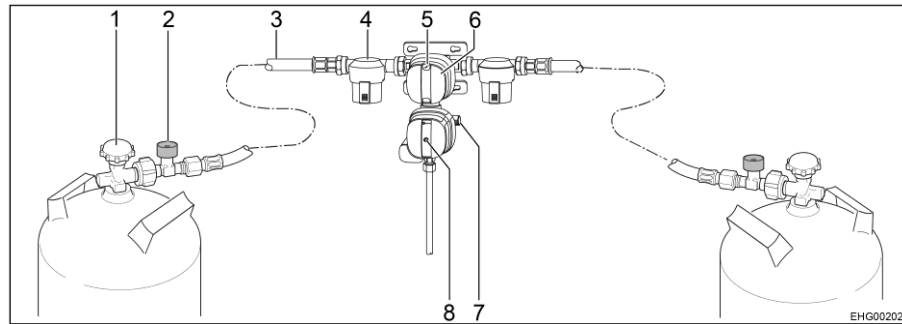
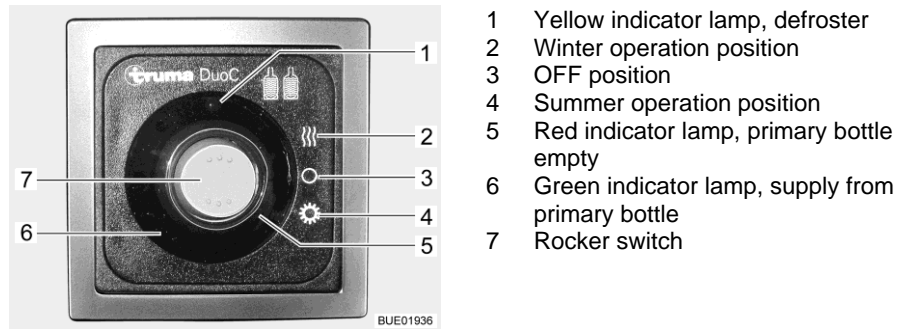

Fig. 133 Safety gas pressure regulating system DuoControl CS
Fig. 134 Operating unit (DuoControl)
The DuoControl regulating system consists of a reversing valve and a crash sensor. The DuoControl regulating system is installed between the high-pressure hoses (Fig. 133,3) with hose break guard (Fig. 133,2). The knob (Fig. 133,6) on the reversing valve is used to select which of the gas bottles is to be used as primary bottle and which is to be used as reserve bottle.
The status of the gas supply is indicated in the inspection window (Fig. 133,5):
The crash sensor blocks the gas supply in the event of a significant impact (e.g. accident). The situation of the yellow reset button (Fig. 133,8) indicates the operating status of the crash sensor:
- If the yellow reset button (Fig. 133,8) is in the pressed-in position, the crash sensor is ready to operate.
- If the yellow reset button (Fig. 133,8) is protruding, the crash sensor is **not** ready to operate. Putting into operation, see below.
The hose break guard (Fig. 133,2) blocks the gas flow if the connected hose breaks. The hose break guard must be activated by pressing the green button.
The operating unit shows the status of the primary bottle. When the green indicator lamp (Fig. 134,6) illuminates, the primary bottle is full. When the red indicator lamp (Fig. 134,5) illuminates, the primary bottle is empty. In this case, the reserve bottle is used for the gas supply.
If the heater of the DuoControl regulating system (defroster) is active, the yellow defroster indicator lamp (Fig. 134,1) is lit.
In addition, the operating unit (Fig. 134) is also used to set summer operation or winter operation.
- Press lower part of the rocker switch (Fig. 134,7) (summer operation position (Fig. 134,4)).
- Press upper part of the rocker switch (Fig. 134,7) (winter operation position (Fig. 134,2)).
- Use the knob (Fig. 133,6) on the reversing valve to select the gas bottle which is to be the primary source of gas (primary bottle). Always turn the knob as far as it will go.
- Open regulator taps (Fig. 133,1) on the gas bottles.
- Press and hold the green button of the hose break guard (Fig. 133,2) for about 5 seconds. The green marking is shown in the inspection window (Fig. 133,5).
- If the crash sensor has triggered (the yellow reset button (Fig. 133,8) is protruding):
Press the yellow reset button (Fig. 133,8) in forcefully, turn it slightly in a clockwise direction and hold it for about 5 seconds. Make sure that the reset button remains in the pressed-in position ("ready for operation"). If it is not possible, reset the system as described: Use the Torx insert T20 on the included screwing aid to strengthen the rotary movement.
- Set the rocker switch (Fig. 134,7) to the OFF position (Fig. 134,3). The indicator lamps go out.
- Close regulator taps (Fig. 133,1) on the gas bottles.
If the green indicator lamp (Fig. 134,6) goes out during operation and the red indicator lamp (Fig. 134,5) lights up, the primary bottle is empty and must be changed. The red marking is shown in the inspection window (Fig. 133,5) of the associated gas bottle. The reserve bottle continues supplying the gas appliances with gas.
- Turn the knob (Fig. 133,6) as far as it will go in the direction of the gas bottle currently used. In this way, this gas bottle is the primary bottle now, and the empty gas bottle becomes the reserve bottle. The marking in the inspection window (Fig. 133,5) changes from red to green.
- Close regulator tap (Fig. 133,1) on the empty gas bottle. Pay attention to the direction of the arrow.
- Press the green button of the hose break guard (Fig. 133,2).